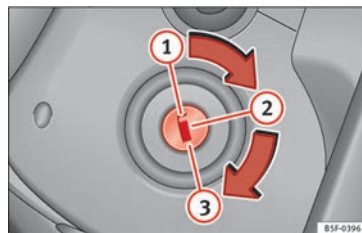

Fig. 170 Ignition key positions.
In this position » **Fig. 170**, the ignition and the engine are OFF and the steering may be locked.
- Turn the ignition key to position »» **Fig. 170**  2. The warning lamp  will light for engine pre-heating.
- Turn the ignition key to position » **Fig. 170**